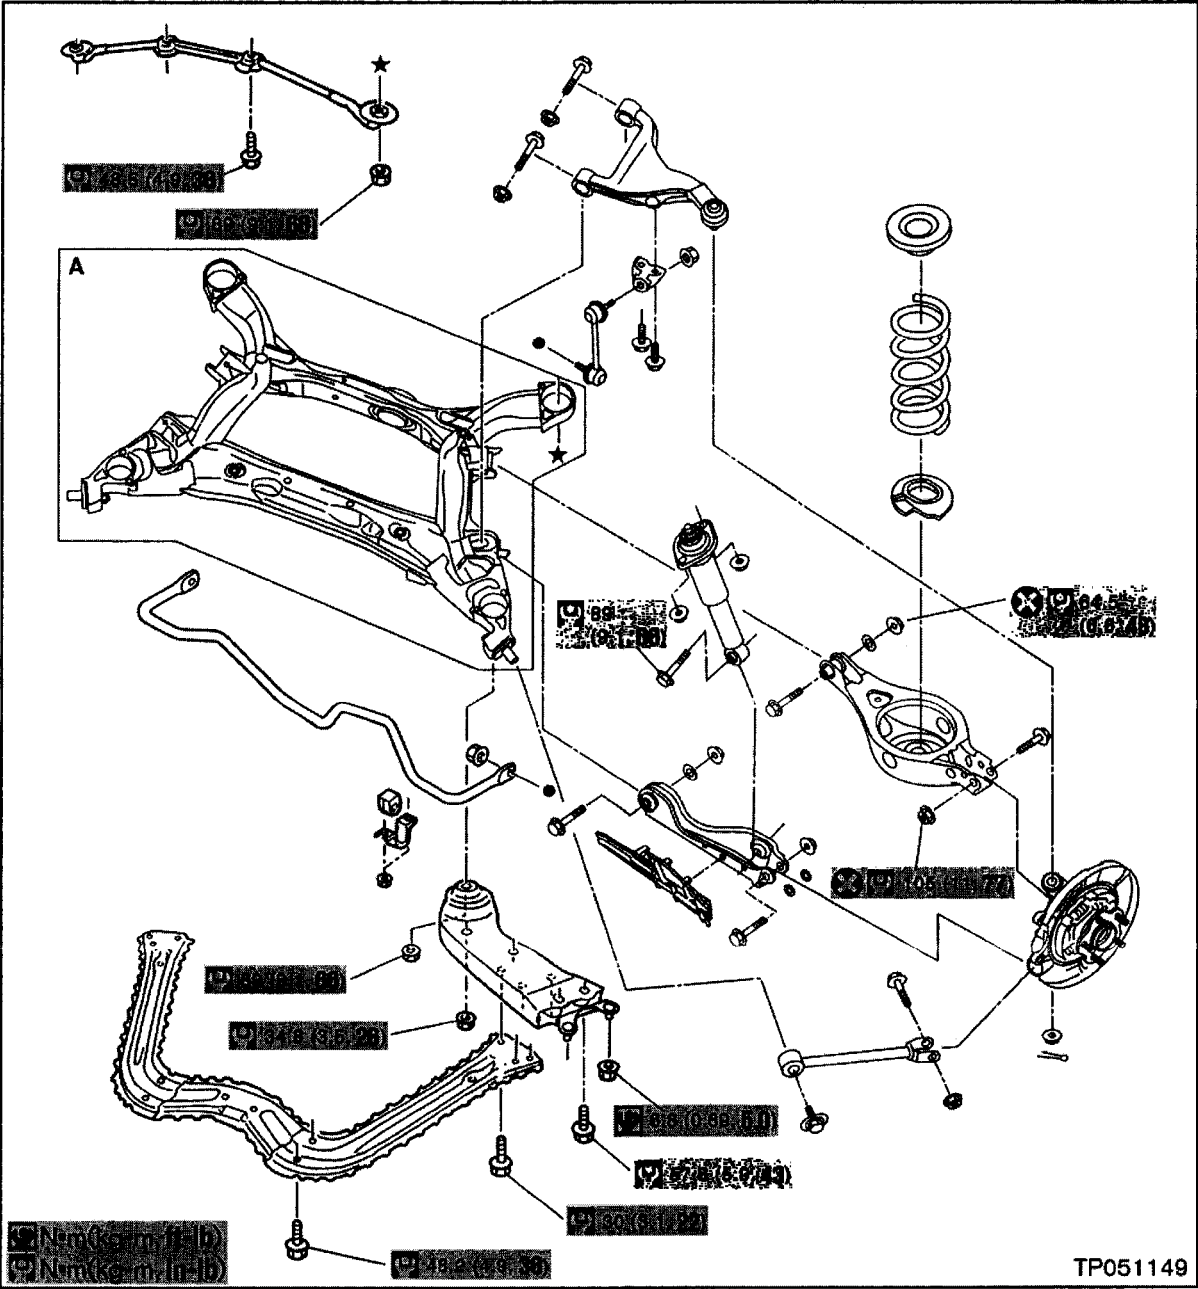

Figure 72
- All highlighted suspension fasteners are tightened to the proper torque specification (see Figure 72).